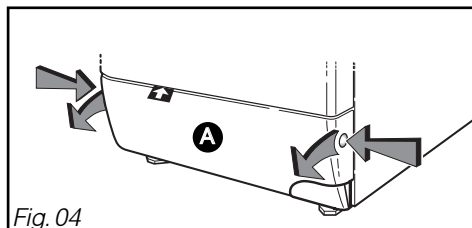

Fig. 04
- Open by pressing on the bosses on each side of the **baseboard** at the same time **A** while pulling the baseboard towards you (Fig. 04).
– Remove the baseboard (see Fig. 04, previous pages).